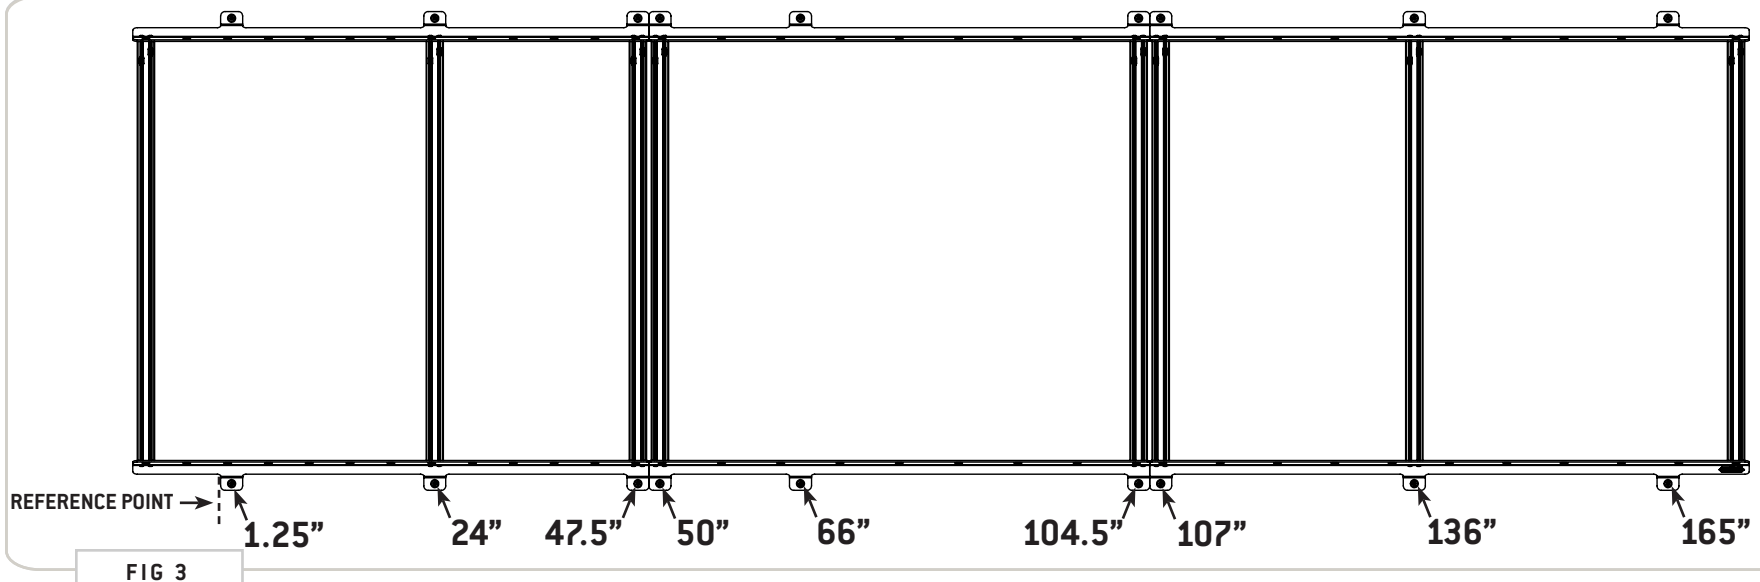

FIG 3
1.2 Layout Rail Nuts: Space out the **Rail Nuts** close to their final positions as roughly laid out in **FIG 3**.